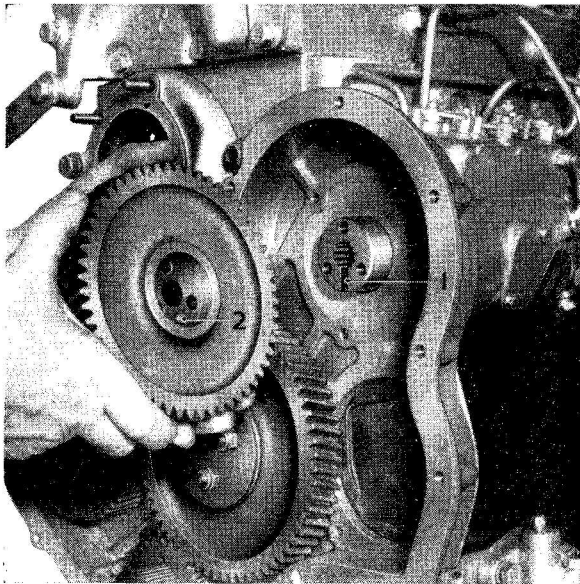

Fig. 14 1. SLOT IN FUEL PUMP HUB
4. Withdraw the gear from its dowelled location on the fuel pump (Fig. 14).